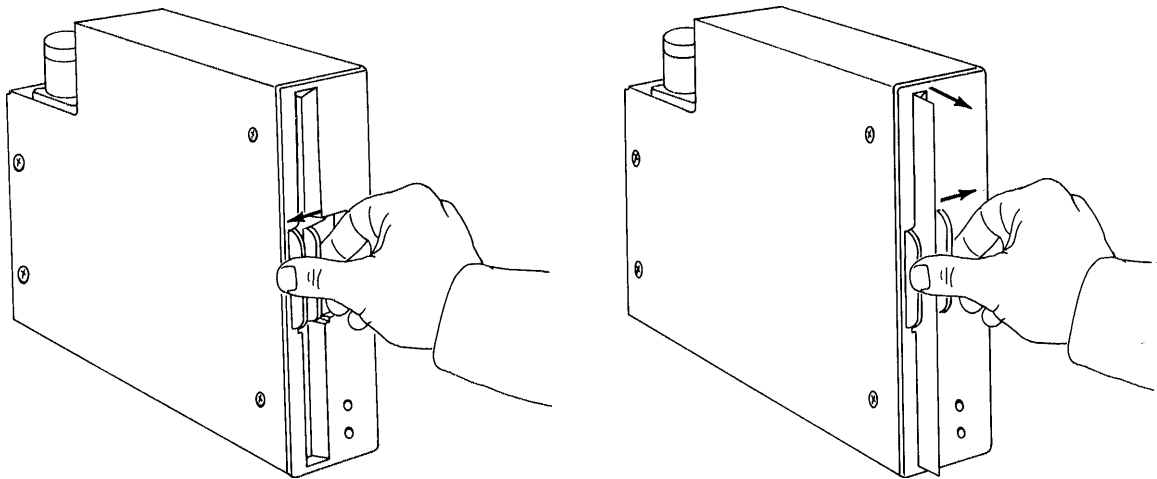

Figure 2-14 Unlocking the Door and Removing the Flexible Disk
- b. Press the door handle as shown in Figure 2-14; the door unlocks and the flexible disk is ejected.